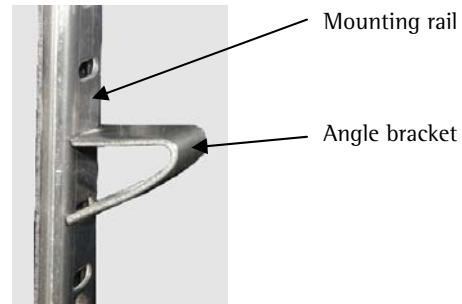

Figure 8: Assembled angle bracket
2. Now press the angle bracket in such a way that the lower end of it snaps in the mounting rail – one recess notch under it (see figure 8).